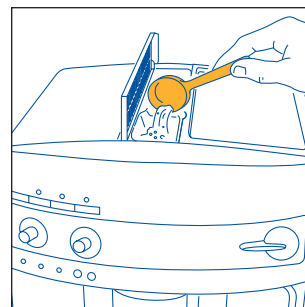

Fig.19
2. Lift the lid in the centre, insert the pre-ground coffee measure in the funnel (see fig. 19) and proceed as described in paragraph 5. NB: You can make just one coffee at a time by pressing the  button.